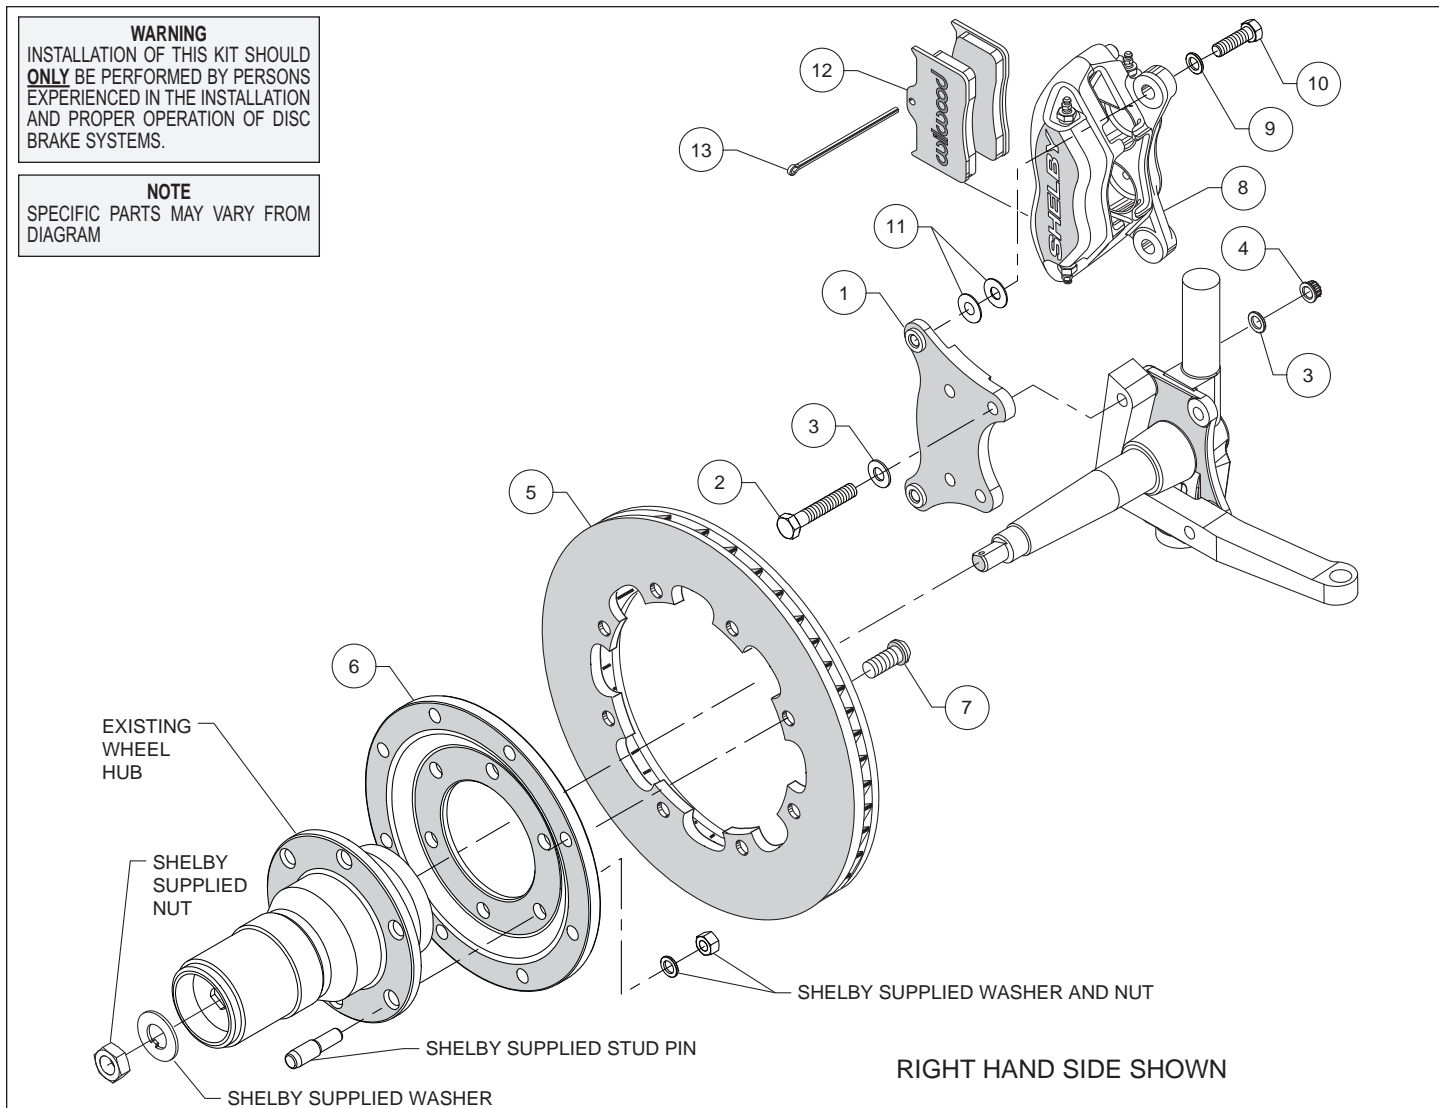
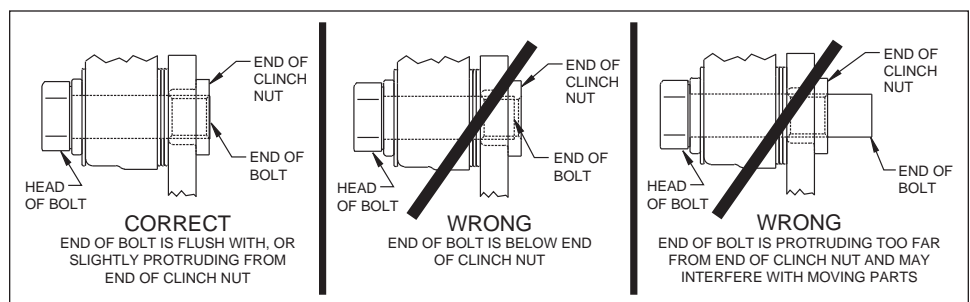

Figure 1. Typical Installation Configuration
Figure 4. Clinch Nut Engagement Diagram
**Assembly Instructions** (numbers in parenthesis refer to the parts list and Figure 1 on the preceding pages): **CAUTION:** All mounting bolts must fully engage clinch nuts. Be sure to check that all bolts are either flush or protruding through flanged side of clinch nut after shimming, Figure 4.
- Orient the caliper mount bracket (1) as shown in Figure 1 and install using bolts (2), washers (3) and nuts (4). Ensure that the flanged heads of the clinch nuts in the bracket are facing outboard, Figure 1. Temporarily tighten the mounting bolts.
- Orient the rotor (5) and the rotor adapter (6) as shown in Figure 1 and Photo 1. Attach the rotor to the adapter using bolts (7). Using an alternating sequence, apply red *Loctite*® 271 to the threads, and torque to 25 ft-lb.
- Mount the adapter/rotor assembly (5/6) to the hub (customer supplied) using stud pin, washer and nut (all customer supplied), as shown in Figure 1. Using an alternating sequence, apply red *Loctite*® 271 to the threads, and torque nuts to manufacturer's specifications.
• **NOTE:** Please reference the caution statement at the beginning of the assembly instructions. Mount the caliper (8) onto the caliper mounting bracket (1) using bolts (10) and washers (9), as shown in Figure 1. Initially place two .035" thick shims (11) on each bolt between the caliper and the bracket, Photo 2. Temporarily tighten the mounting bolts and view the rotor (5) through the top opening of the caliper. The rotor should be centered in the caliper, Photo 3. If not, adjust by adding or subtracting shims between the bracket and the caliper. Always use the same amount of shims on each of the two mounting bolts. **NOTE:** The end of each bolt must be flush with or slightly protruding from the head of the clinch nut, as shown in Figure 4. If necessary place spare shims between washer (9) and caliper mounting ear to achieve the proper clinch nut engagement. Once the caliper alignment and clinch nut engagement are correct, remove the bolts one at a time, apply red *Loctite*® 271 to bolt threads, and torque to 40 ft-lb.
- Install the disc brake pads (12) into the caliper, with the friction material facing the rotor (5), and secure in place using cotter pin (13), Photo 4.